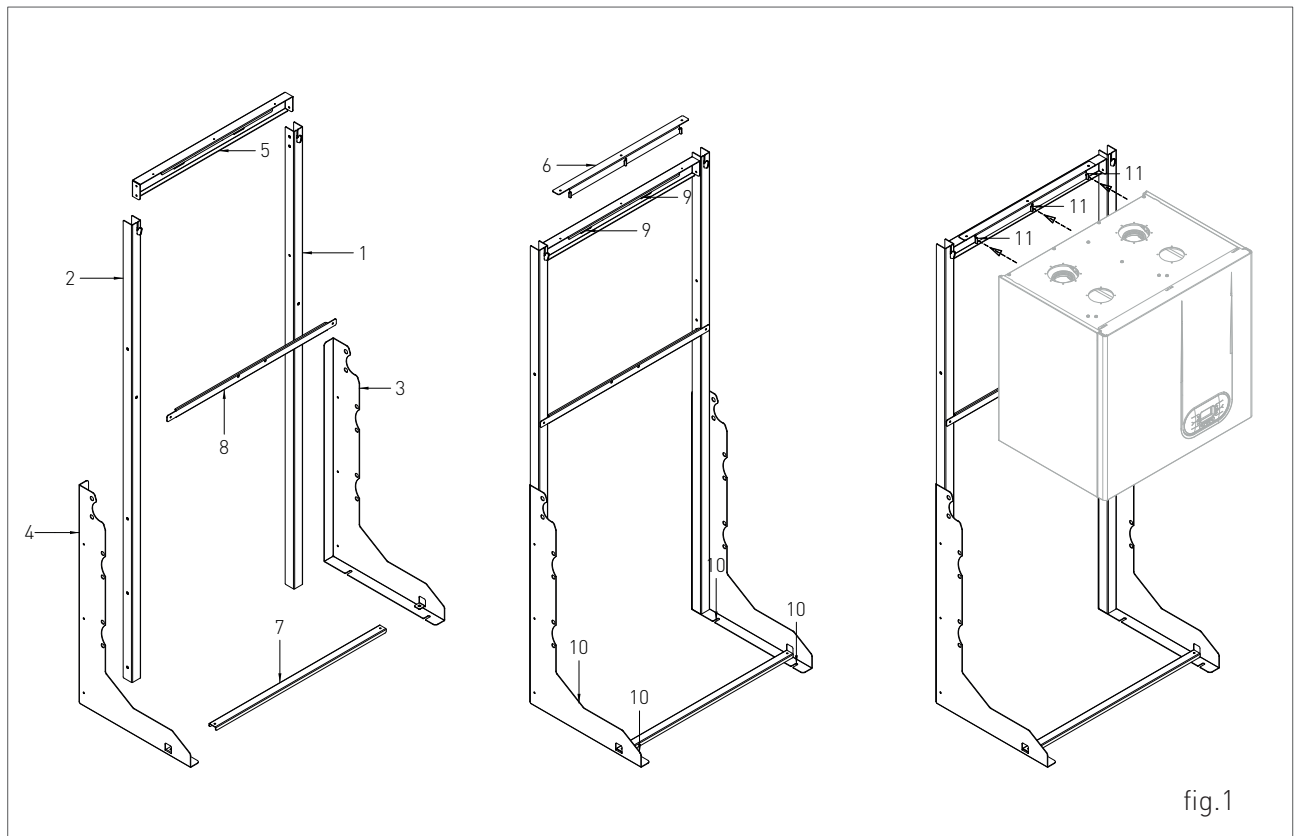

fig.1
The kit allows combining the thermal generator with a remote storage system for the production of domestic hot water (cod. 26097LP, fig. 1).
The kit allows instantaneous D.H.W. production management through a remote heat exchanger. The instantaneous D.H.W. production kit (code 65-00819, fig. 1) includes the diverter valve kit described above and a flow-meter to be installed at cold water inlet.
In case of a new system or in case of replacement of the generator with the possibility to wash the water pipes, it is recommended to install a hydraulic separator (code 12-01735, fig. 1).
In order to allow the access inside the boiler for maintenance operations, you have to respect the minimum technical spaces indicated in figure 1.
1. fix on the wall (fig. 1), using the fisher, the upper bracket;
2. assemble the side profiles 3 and 4 on the pillars 1 and 2 (fig. 1);